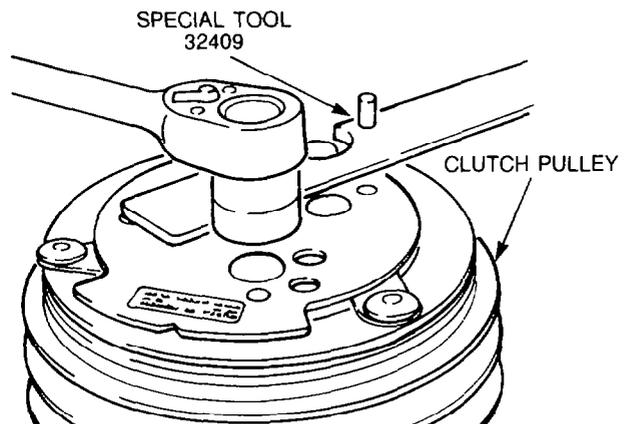

Figure 17 — Clutch Front Plate Pulley Retaining Nut — Removal
- a. Using special tool 32409 to secure the clutch front plate pulley (see Fig. 17) remove the pulley retaining nut.